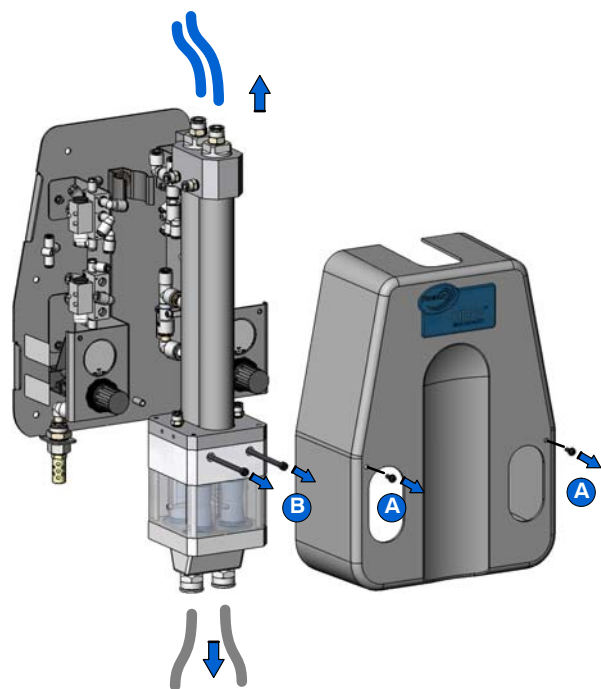
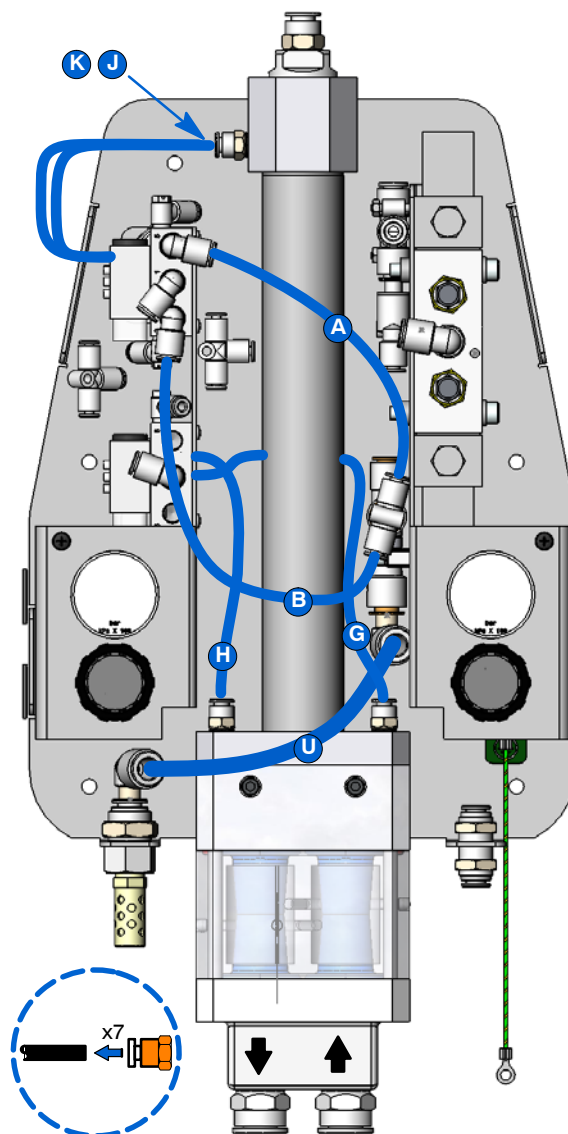

Figure 9 Disconnecting Tubing and Removing the Cover
Figure 10 Disconnecting Air Tubing
1. See Figure 9. Disconnect the purge air lines from the top of the pump.
3. Remove the two screws (A) and the cover from the pump.
4. See Figure 10. Disconnect one end of each of the seven air tubes indicated.
**NOTE:** The letters in Figure 10 correspond to the letters in the *Tubing Diagram* on page 20.
5. See Figure 9. Remove the two screws (B) securing the pump assembly to the base. Remove the pump assembly and take it to a clean work surface.